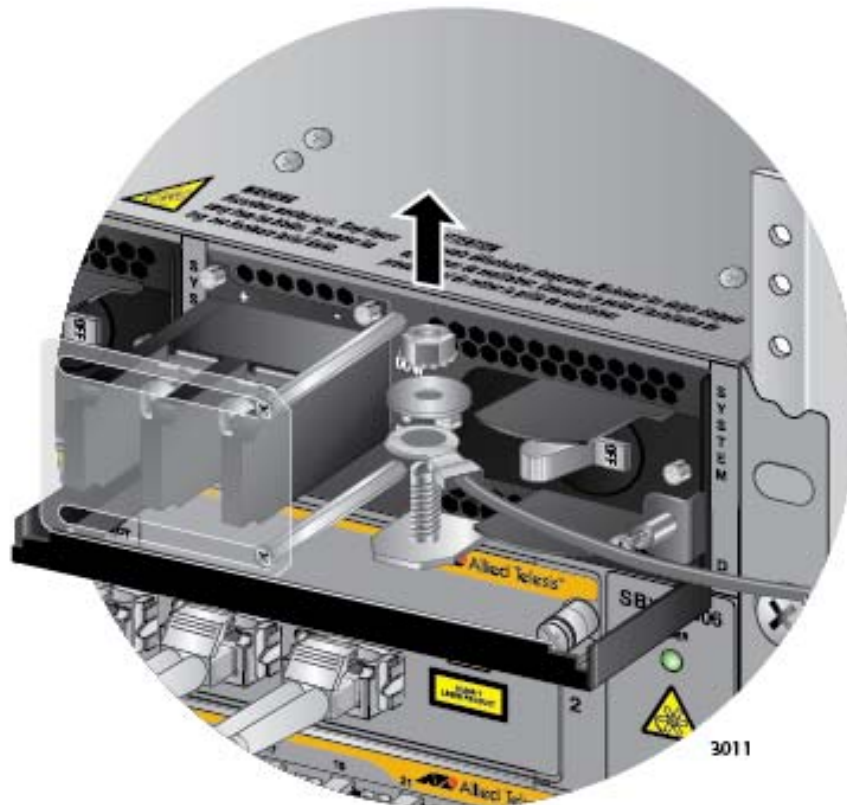

Figure 158. Removing the Grounding Wire
9. Use an 8 mm wrench to remove the grounding wire from the grounding post. Refer to Figure 158 on page 250.